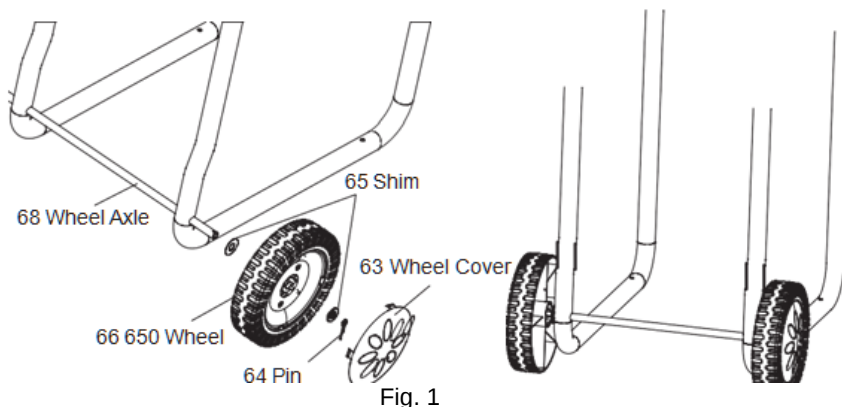

Fig. 1
- 1) Install the wheels and wheel caps on both sides of the wheel axle as shown in Fig. 1. Secure them with bolts and washers.